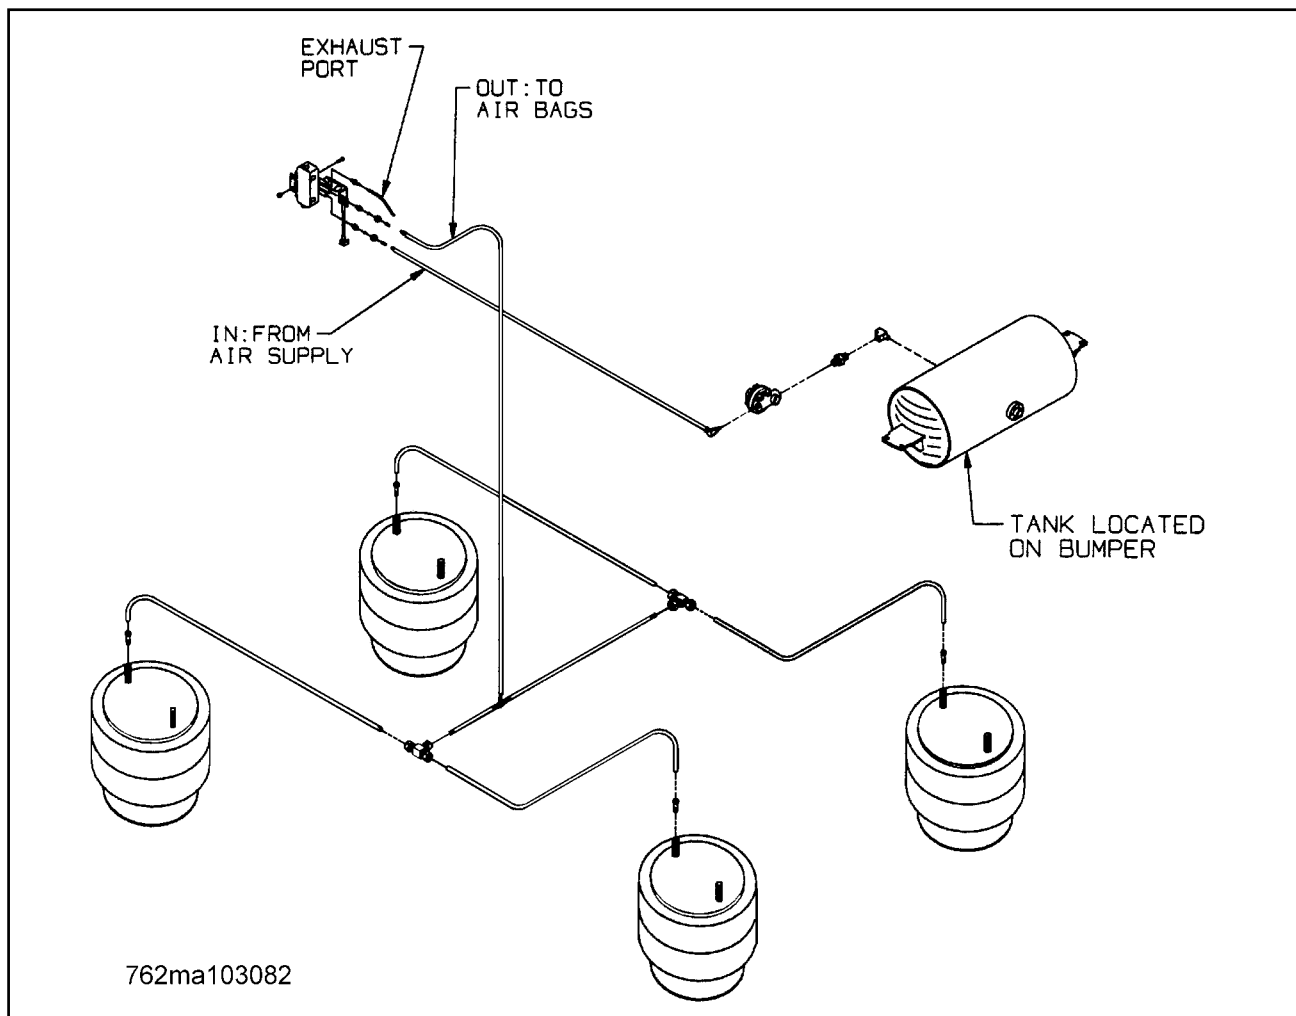

Figure 4-5 Tandem Axle Air Ride Suspension System
a. See Figures 4-5 and 4-7 for Tandem and Triple Axle Air Ride Suspension drawings.